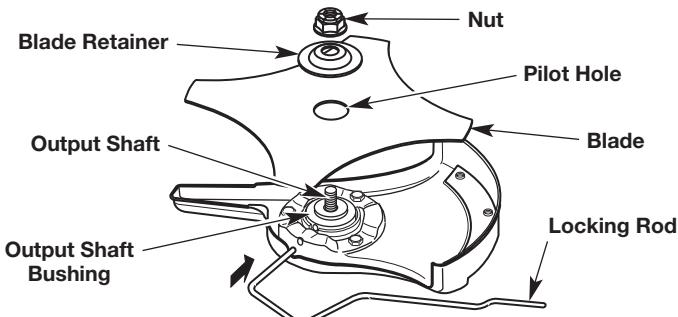

Fig. 15
4. While holding the locking rod in place, put the blade on the output shaft bushing (Fig. 15).
**WARNING:** To avoid serious personal injury, make sure that the pilot hole on the blade is sitting flat against the output shaft bushing (Fig. 15). The unit will vibrate and the blade may fly off if the blade is not centered.
5. Place the blade retainer on the output shaft with the flat surface against the blade (Fig. 15).
6. Screw the nut onto the output shaft (Fig. 15).